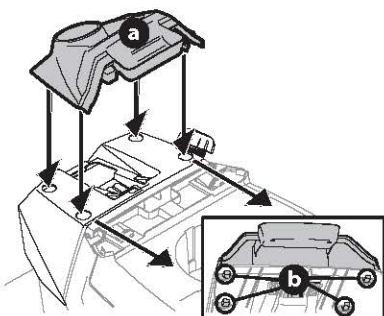

Figure 13
To install the dash cap (a), line up the tabs (b) on the dash cap (a) with the holes in the upper dash (Figure 13). Slide the tabs (b) into the holes in the upper dash and push forward on the dash cap to lock it into place.
**NOTE:** Be sure to press on the lower part of the dash cap (a) facing the operator position to ensure the lower tabs on the dash cap are in place (Figure 13).